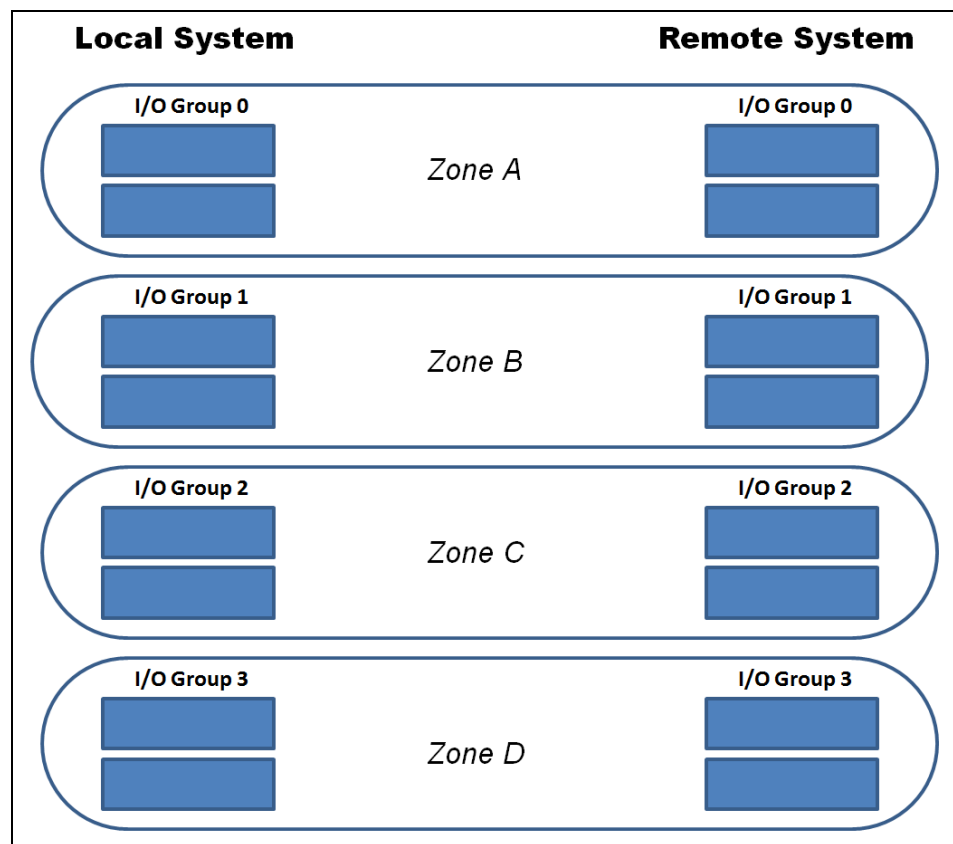

Figure 6-24 Zoning scheme for >80 ms Remote Copy partnerships
- For Remote Copy configurations where the round-trip latency between systems is more than 80 milliseconds, apply SAN zoning to provide separate intrasystem zones for each local-remote I/O group pair that is used for replication, as shown in Figure 6-24.